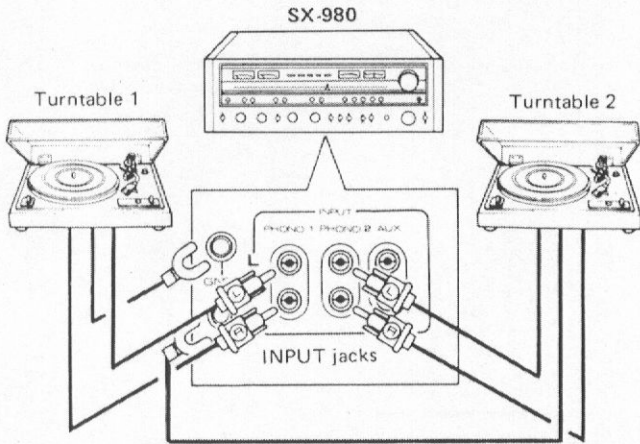

Fig. 3
Connect the output cords of a turntable using a moving magnet (MM) cartridge to the PHONO 1 input jacks. Connect the ground lead of the turntable to the GND terminal on the receiver (Fig. 3).